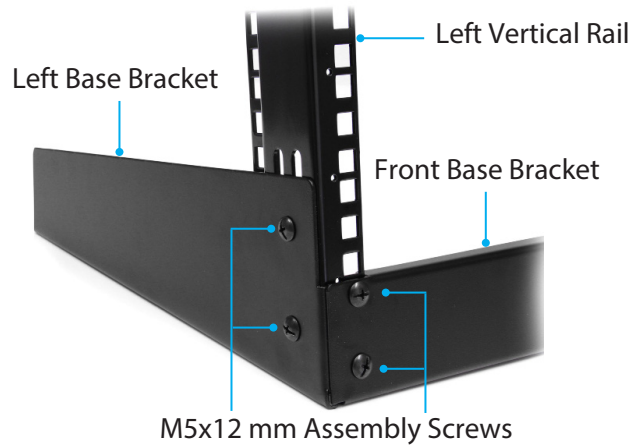

Figure 1
3. Align the **Assembly Holes** (x 2) on the side of the **Left Base Bracket** with the **Assembly Holes** (x 2) on the side of the **Left Vertical Rail**. (Figure 1)